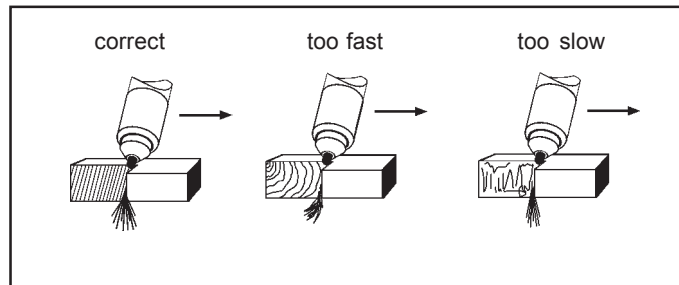

Fig. 16 - Effect of Cutting Speed
4. For manual and mechanized cutting, maintain a standoff (torch-to-work distance) of about 3/8-in. (stand off guide, P/N 36648, provides that distance). Keep the torch head vertical, and move it at a rate that produces the desired cut quality. The cutting should produce a straight fine spray of molten metal emitting from beneath the workpiece as illustrated in Fig. 16. For mechanized cutting, see Table 2 or 3 for recommended cutting speed range.